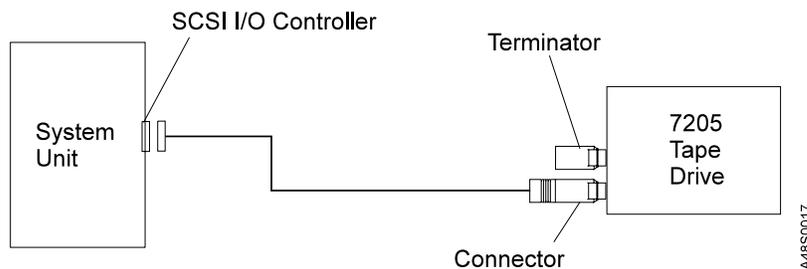

Figure 4. Example of Attaching One SCSI Device to the System Unit
- If the 7205 Digital Linear Tape Drive is the only device on the SCSI bus, connect the cable to the system unit (see Figure 4).
- If the 7205 Digital Linear Tape Drive is the only SCSI device on the SCSI bus, install the terminator on one of the dual connectors of the 7205 Digital Linear Tape Drive (see Figure 4).